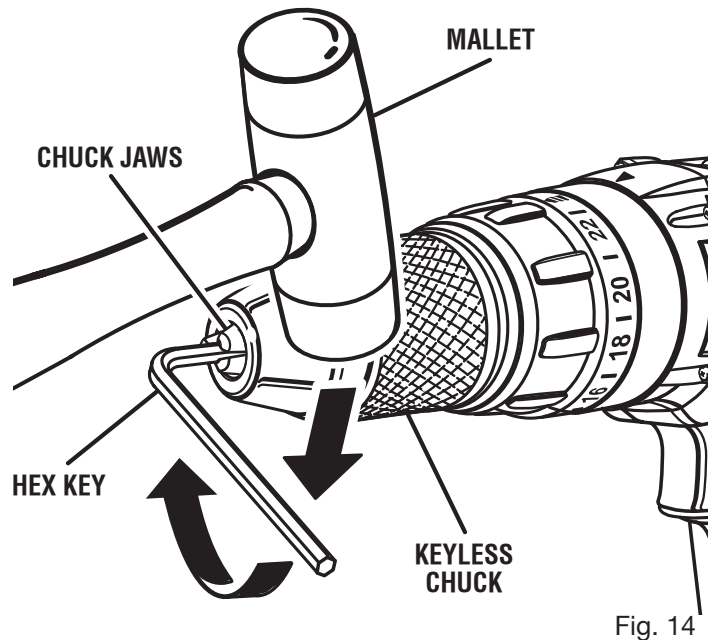

Fig. 14
See Figures 14, 15, and 16.
- Tap the hex key sharply with a mallet in a clockwise direction. See Figure 14. This will loosen the screw in the chuck for easy removal.
- Insert the hex key into the chuck and tighten chuck jaws securely. Tap the hex key sharply with a mallet in a clockwise direction. This will tighten the chuck on the spindle. See Figure 14.